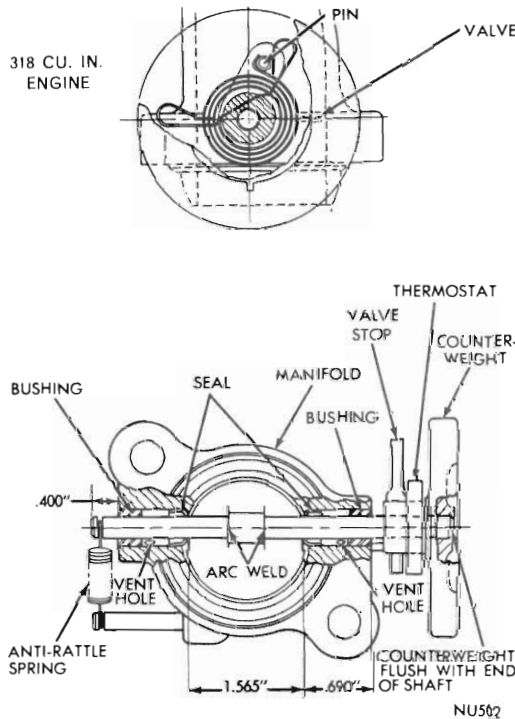

Fig. 7 - Proper manifold heat control valve installation
- (1) Press in a new seal with the cupped end facing outward, on counterweight side of exhaust manifold, to a depth of .690 inch (Fig. 7).
- (2) Press in bushing flush with outer edge of exhaust manifold.
- (3) Press in a new seal in other side until there is a dimension of 1.565 inch between right and left hand seals.
- (4) Press in front bushing flush with manifold.
- (5) Line rear bushings and seals, .3095 to .3110 inch diameter. Test for free fit of shaft in bushings and seals.
- (6) Press counterweight on plain end of shaft until flush with end of shaft.
(7) Position thermostat so centre end or tab is pointing left and hook or outer end points down, install thermostat on counterweight.
(8) Install valve stop on counterweight so looped ends face away from thermostatic spring hook end.
(9) Holding thermostatic spring wrapped 140 degrees in a counterclockwise direction viewed from counterweight end, install shaft assembly through the outer bushing, seal and valve plate with the strap facing the flange end of the manifold; attach hook end of thermostatic spring to stop pin.
(10) With forward end of shaft positioned .400 inch through the manifold with valve plate closed and the counterweight stop against stop pin as shown in Fig. 7, arc weld valve plate to shaft. Arc welder ground connection must be made at counterweight.
(11) Test for free operation. Install anti-rattle spring.
(12) Position new gasket on studs, install exhaust manifold and tighten to 15 lbs. ft.
(13) Install exhaust pipe to manifold and tighten to 24 lbs. ft.